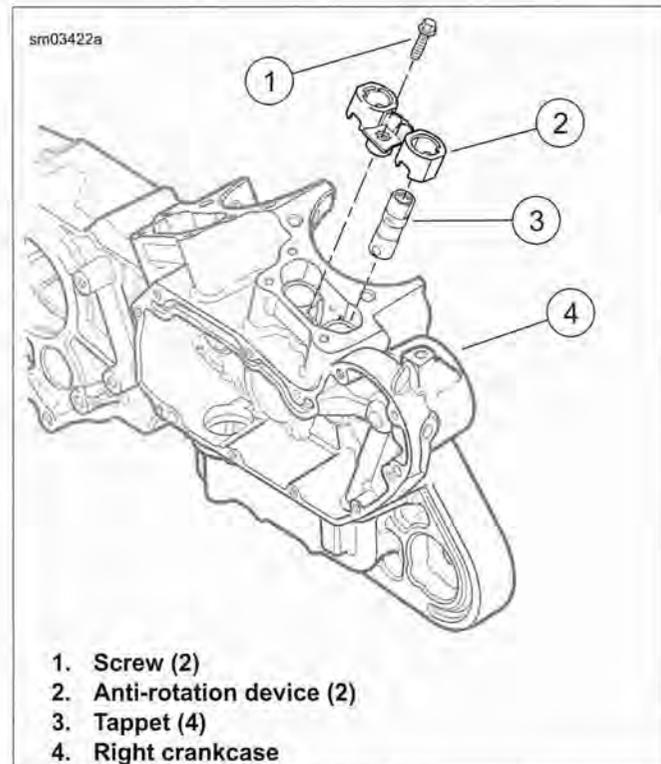

Figure 3-102. Tappet Components
1. See Figure 3-102. Remove screw (1).
2. Remove anti-rotation device (2). Tag anti-rotation device for location (front/rear cylinder) as it is removed.
3. Remove tappet (3). Tag tappet for location (front/rear cylinder) and function (intake/exhaust) as it is removed. This will simplify installation.